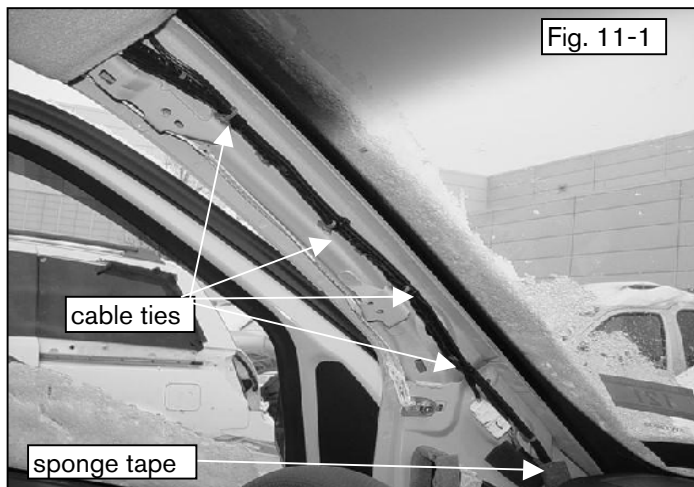

Fig. 11-1
- (10) Route antenna cable from the headliner down the driver side A-pillar.
- (11) Cable tie the antenna cable in four (4) locations to the existing wiring near the harness clip points. Place one (1) piece of sponge tape over the antenna cable and existing wiring near the bottom of the A-pillar. Fig. 11-1 & 11-2